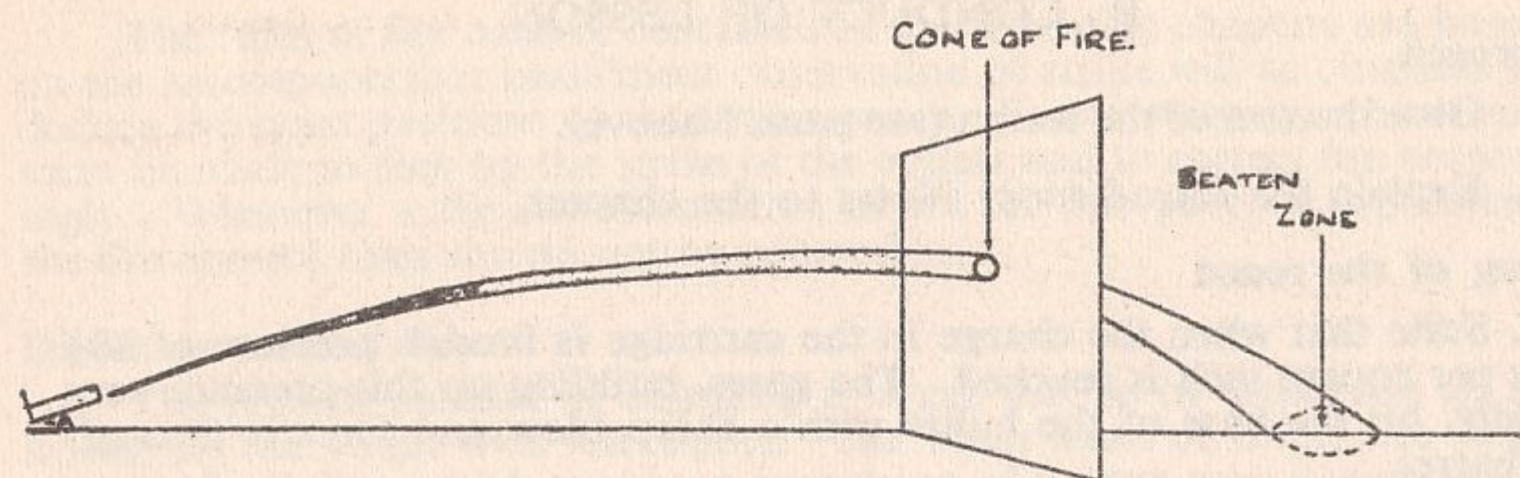

FIG 13
12. Tell the class that owing to the slightly different elevation with which each bullet leaves the gun and owing to the general vibration of the gun on its tripod during firing, a burst of fire forms a pattern in the air, which is elliptical in shape if shown in the vertical plane. This pattern is called a cone of fire (*see* Fig 13). The majority of the shots are in the centre of the cone.